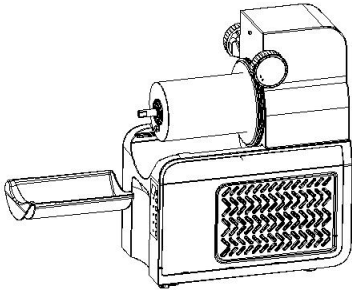

Figure 1
- 2 Install the condensation catch under the evaporator by sliding it into the rail grooves. Figure 1